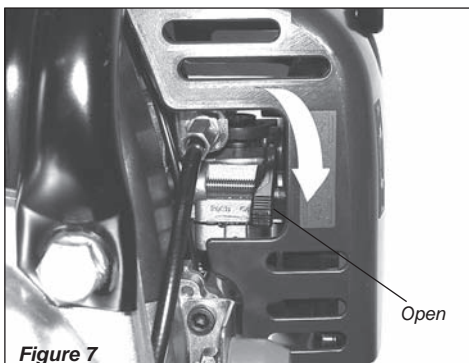

Figure 7
5. When the engine starts, slowly move the choke lever to the "OPEN" position. See Figure 7. (If the engine stops after the initial start, close the choke and restart.)